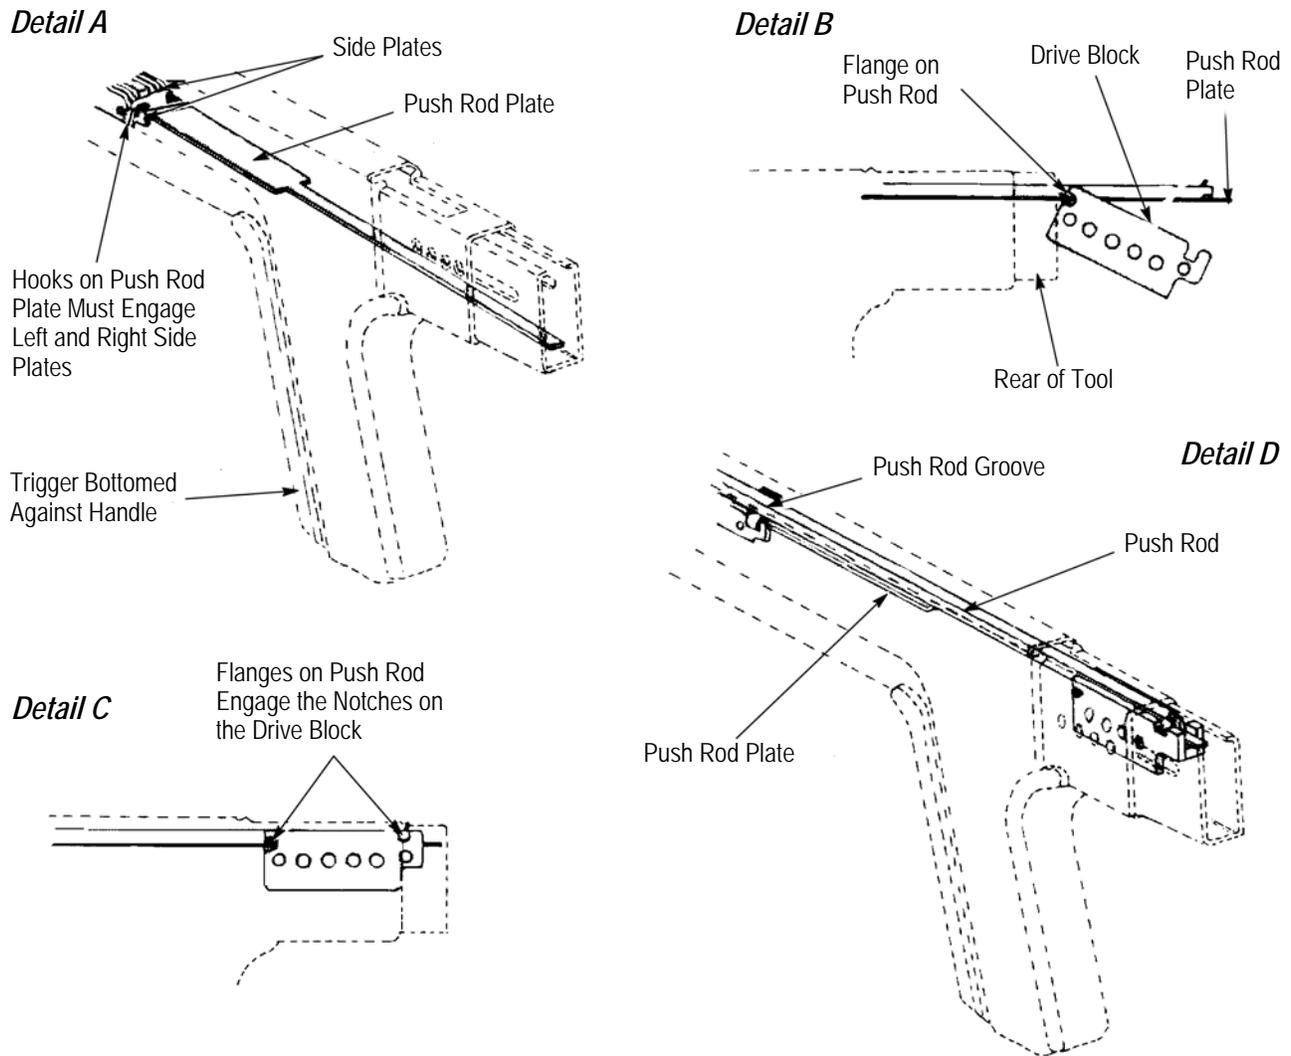

Figure 16
1. Squeeze and hold the trigger until it bottoms against the handle. *Do not release the trigger. See Figure 16, Detail A.*
2. Insert the push rod plate, wide end first, into the rear of the tool. Be sure that the hooks on the push rod plate engage in the left and right side plates. See Figure 16, Detail A.
3. Slide the push rod along the top of the push rod plate until the flange on push rod is even with the rear of the tool. See Figure 16, Detail B.
The push rod plate must be positioned between the drive block and the push rod. See Figures 16, Detail B and Figure 16, Detail C.
5. Insert the assembled push rod, drive block, and push rod plate in the rear of the tool so that the front end of the push rod enters the push rod groove. See Figure 16, Detail D.